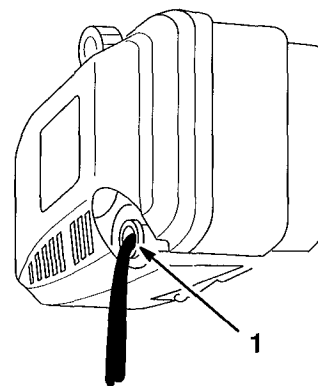

Figure 17
5. Drain oil from oil fill tube at dipstick (Fig. 17). Drain oil into appropriate container. Dispose of oil properly. Recycle per local codes.